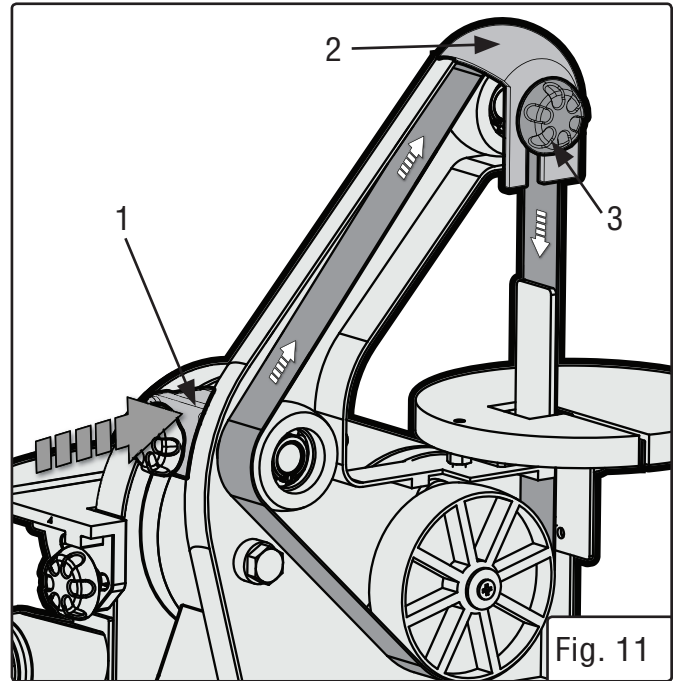

Fig. 11
2. Remove the upper guard locking knob (Fig. 11 - 3) and the upper guard (Fig. 11 - 2).
4. Push the shaft guard (Fig. 11 - 1) forward towards the work table. (This will shift the middle roller forwards and create slack in the belt.) While pushing the shaft guard forwards, slide the belt off of the rollers with your other hand.